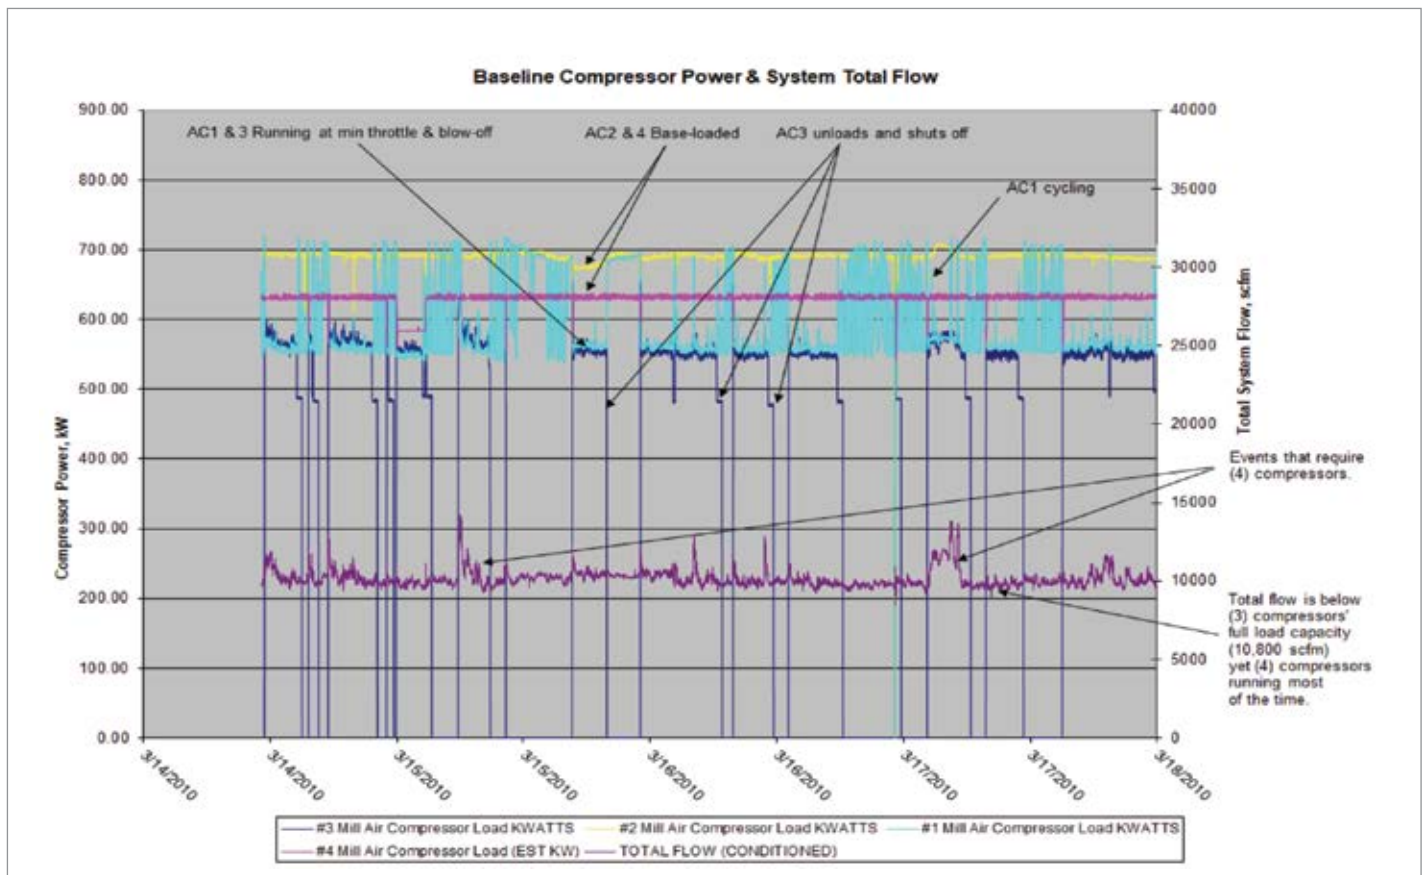

Figure 3: System operation before improvements.
- The cycle keeps going as shown in Figure 3. The cycling of air compressor No. 1 is primarily due to control gap. The upper modulation control range is only 1,080 scfm and is less than the system flow variance. It doesn't match either.